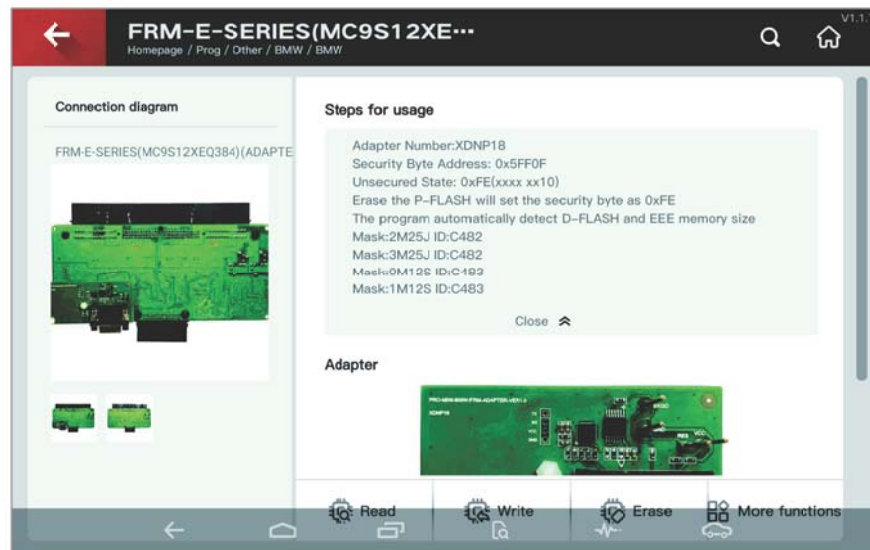

Fig.7.3.1
① Connect the device to BMW adapter(Optional), then clip the adapter to BMW FRM module as shown in Fig. 7.3.1.